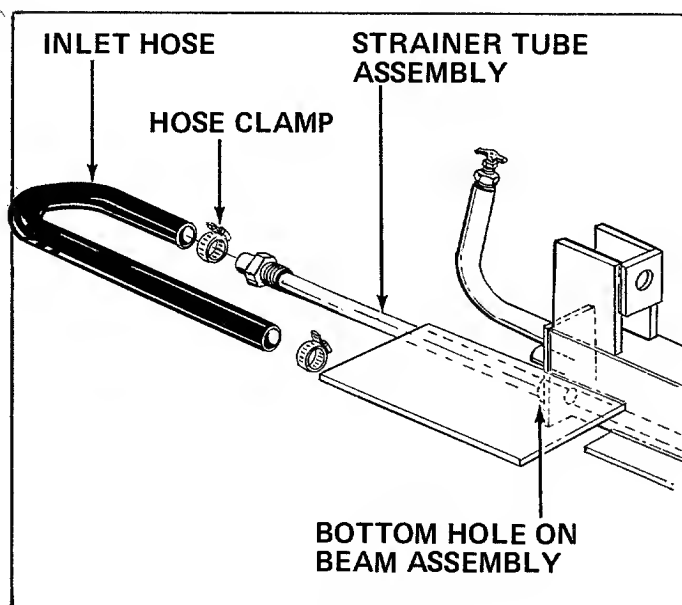

FIGURE 27
2. Pull off inlet hose from strainer tube assembly and catch oil in a suitable container. See figure 27.
3. With an adjustable wrench remove the strainer tube assembly. See figure 27.